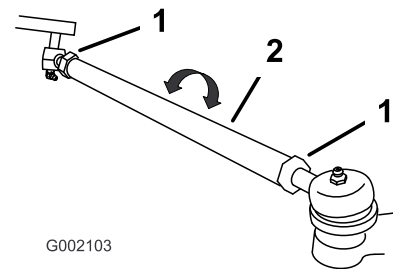

Figure 39
2. If the measurement does not fall within the specified range (refer to the dimensions and parameters at the beginning of this procedure), loosen the jam nuts at both ends of the tie rods (Figure 39).